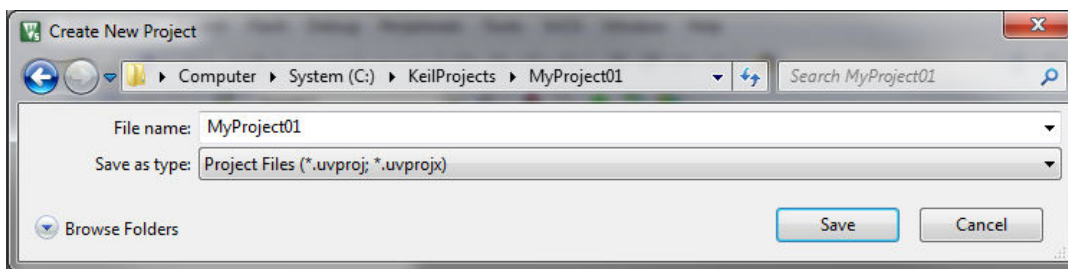

Figure 1-28. Create New Project dialog
3. Navigate to the folder where you want to create the project, for example C:\KeilProjects\MyProject01. Type the name of the project, for example MyProject01. Click Save. See Figure 1-28.